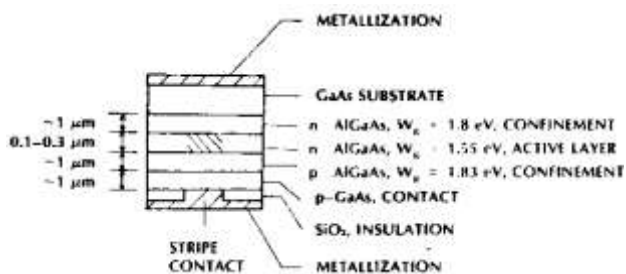

Fig 6.19 Double- heterojunction stripe contact AlGaAs laser diode. The emitting edge is shown crosshatched in the active layer.
- The structure of an AlGaAs laser diode is illustrated in Fig. 6-19 and should be compared with the LED in Fig. 6-3.
- The heterojunctions provide confinement in the vertical direction in Fig. 6-19. The confinement of charges in the lateral direction is assured by the stripe contact.
- The output wavelength, determined by the bandgap energy of 1.55 eV in the active region, is 0.8 μm for the LD in Fig. 6-19.